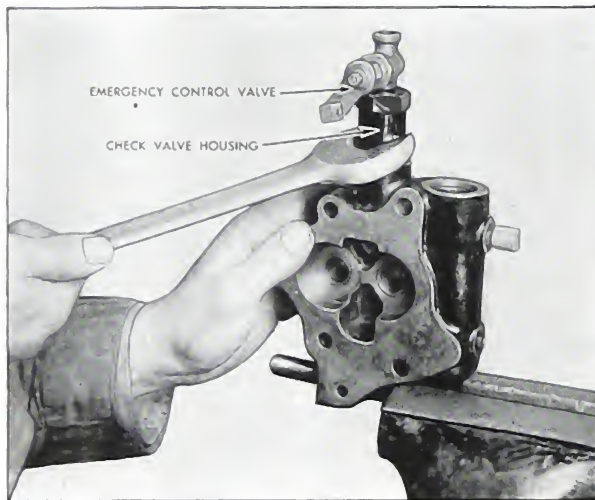

Fig. 5-31. Removing check valve housing
15. Remove the fuel supply check valve housing by screwing out the check valve seat. (Fig. 5-31).